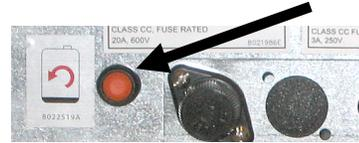

Figure 7
When the oil reservoir level is low and displays TOP OFF OIL EMPTY, (see Figure 2). Press the check button to clear the screen. Once the reservoir is refilled and/or replaced, press and hold the orange reset button next to the oil reservoir (see Figure 7 on the following page) until the message in the lower corner is no longer displayed. If using solid shortening, see Appendix B for instructions.
6. Press the JIB reset switch to clear the Top Off Empty display on the FQ4000 controller off (see Figure 7).